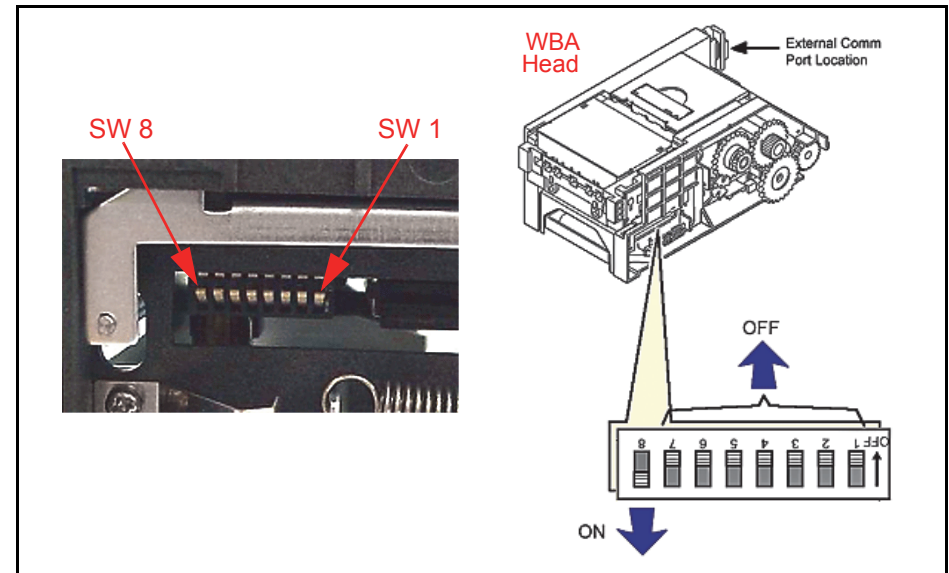

Figure 13 WBA-12 DIP Switch Position Location
1. On the WBA-12, use a small Jewelers Screwdriver to turn DIP Switch #8 ON (See Figure 13 for Switch Number Locations).